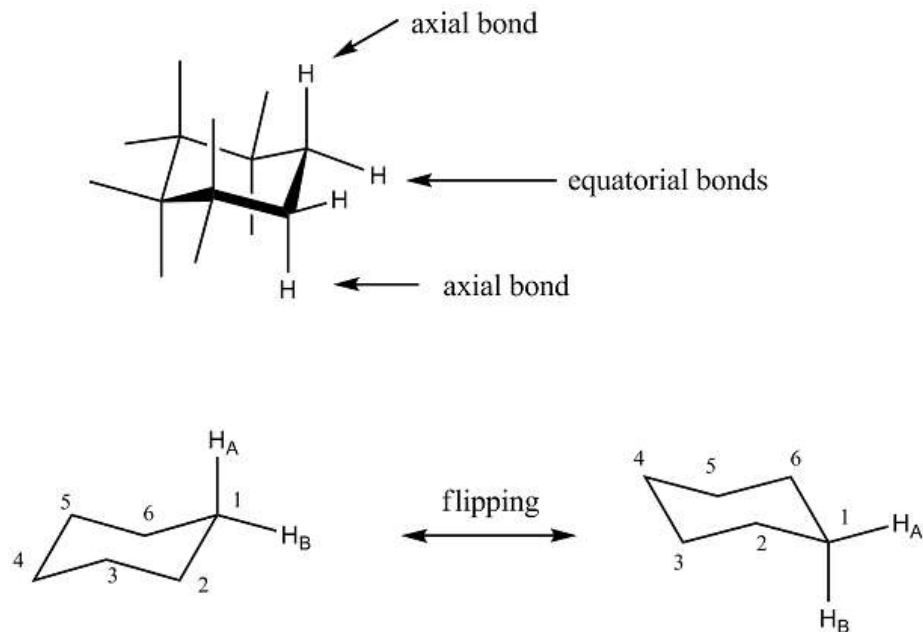

Figure 4.32: Chair Conformation of cyclohexane
**Chair form** In chair form all the C-H bonds are staggered. There are two types of C-H bonds in cyclohexane axial and equatorial. Axial bonds are shown in vertical direction and equatorial bonds are shown in slightly inclined from horizontal direction (fig. 4.32). Axial bonds are converted into equatorial bonds by C-C bond rotation in ring called flipping. The presence of axial and equatorial hydrogen atoms are confirmed from NMR spectrum at  $-60^\circ\text{C}$  which gives two different chemical shifts (At low temperature the flipping is arrested).